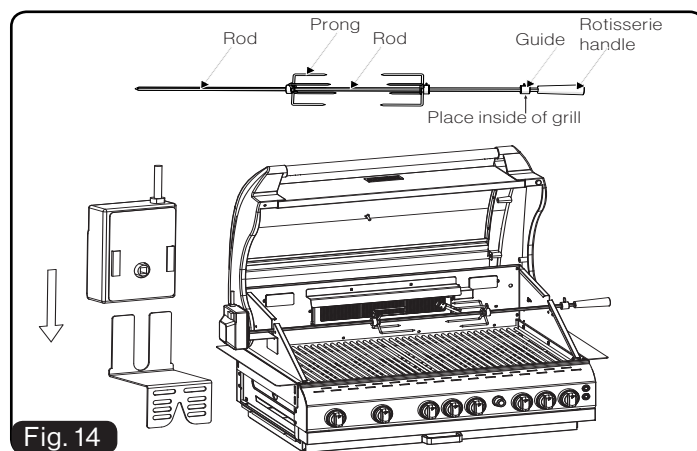

Fig. 14
- If need rotisserie, remove the warming rack at first; next, locate the rotisserie, and insert the motor into motor bracket as shown, make sure the locating ring is at the inside of the grill, and then tighten the screw. (Fig. 14)